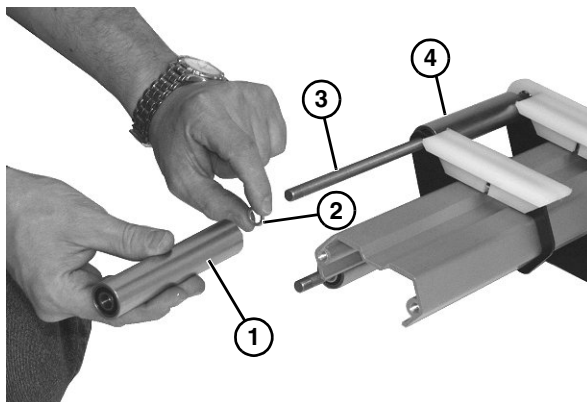

Figure 50
9. Remove roller assembly (**Figure 50, item 1**) and washer (**Figure 50, item 2**) from axle shaft (**Figure 50, item 3**).
10. Remove remaining roller assembly components (**Figure 50, item 4**) on opposite side.